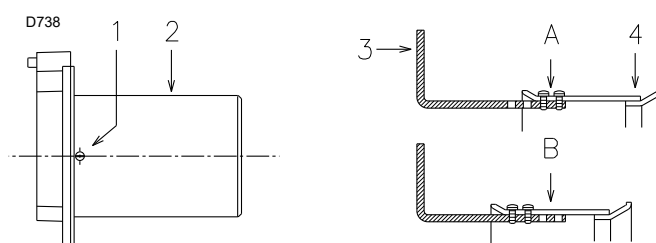

Fig. 12
- Unscrew the screws 1)(Fig. 12) and remove the blast tube 2).
- Move the fixing point of the rod 3)(Fig. 12) from position A to position B, thereby moving the shutter 4) backwards.
- Put back the blast tube 2)(Fig. 12) and the screws 1).